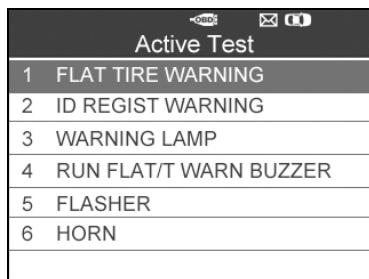

Figure 4.37
- 2) The tool will display a list of available active tests for the vehicle being tested. (Figure 4.37).
- 3) From **Active Test** Menu, use the **UP/DOWN** scroll button to select **Flat Tire Warning** function. (Figure 4.37)